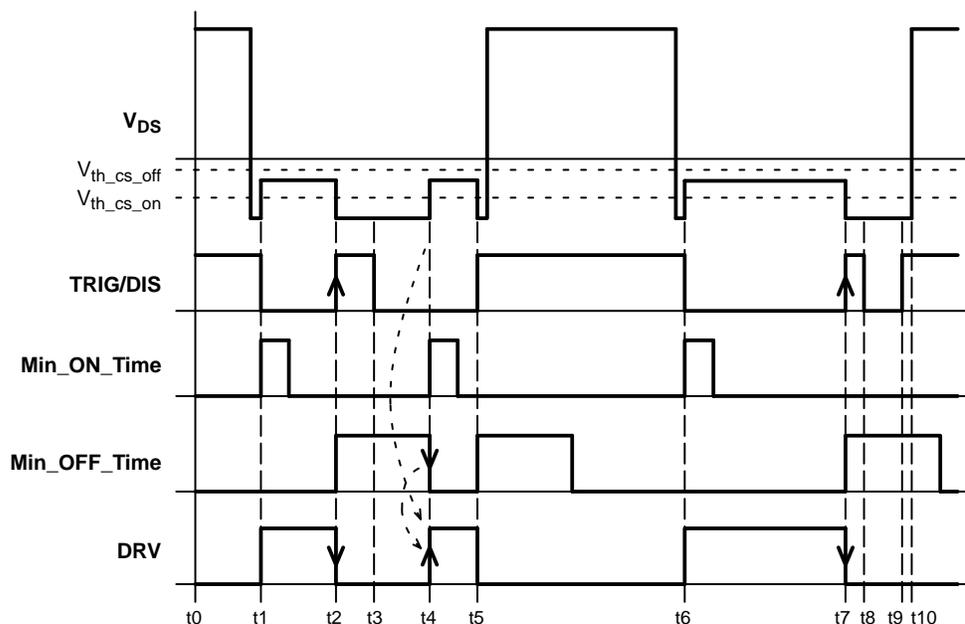

Figure 59. IC Behavior when Multiple Trigger Pulses Appear on TRIG/DIS Input
Figure 59 shows IC behavior in case the trigger signal features two pulses during one cycle of the V_{DS} (CS) signal. TRIG/DIS enables driver at time t_1 and DRV turns ON because the V_{DS} voltage is under $V_{th_cs_on}$ threshold voltage. The trigger signal and consequently DRV output fall down in time t_2 . The minimum OFF time generator is triggered in time t_2 . TRIG/DIS drops down to LOW level in time t_3 but there is still minimum OFF time sequence present so the DRV output stays low. When the minimum OFF time